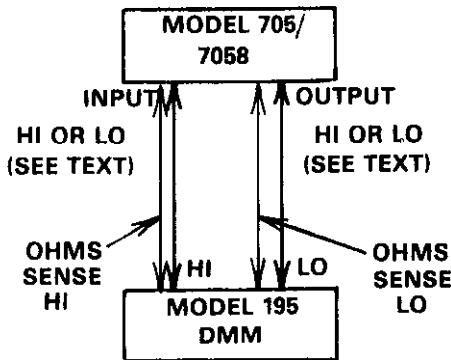

Figure 5. Test Set Up For Signal Path Resistance Test
4. Signal Path Resistance (See Figure 5).
- B. Set up the circuit shown in Figure 5.